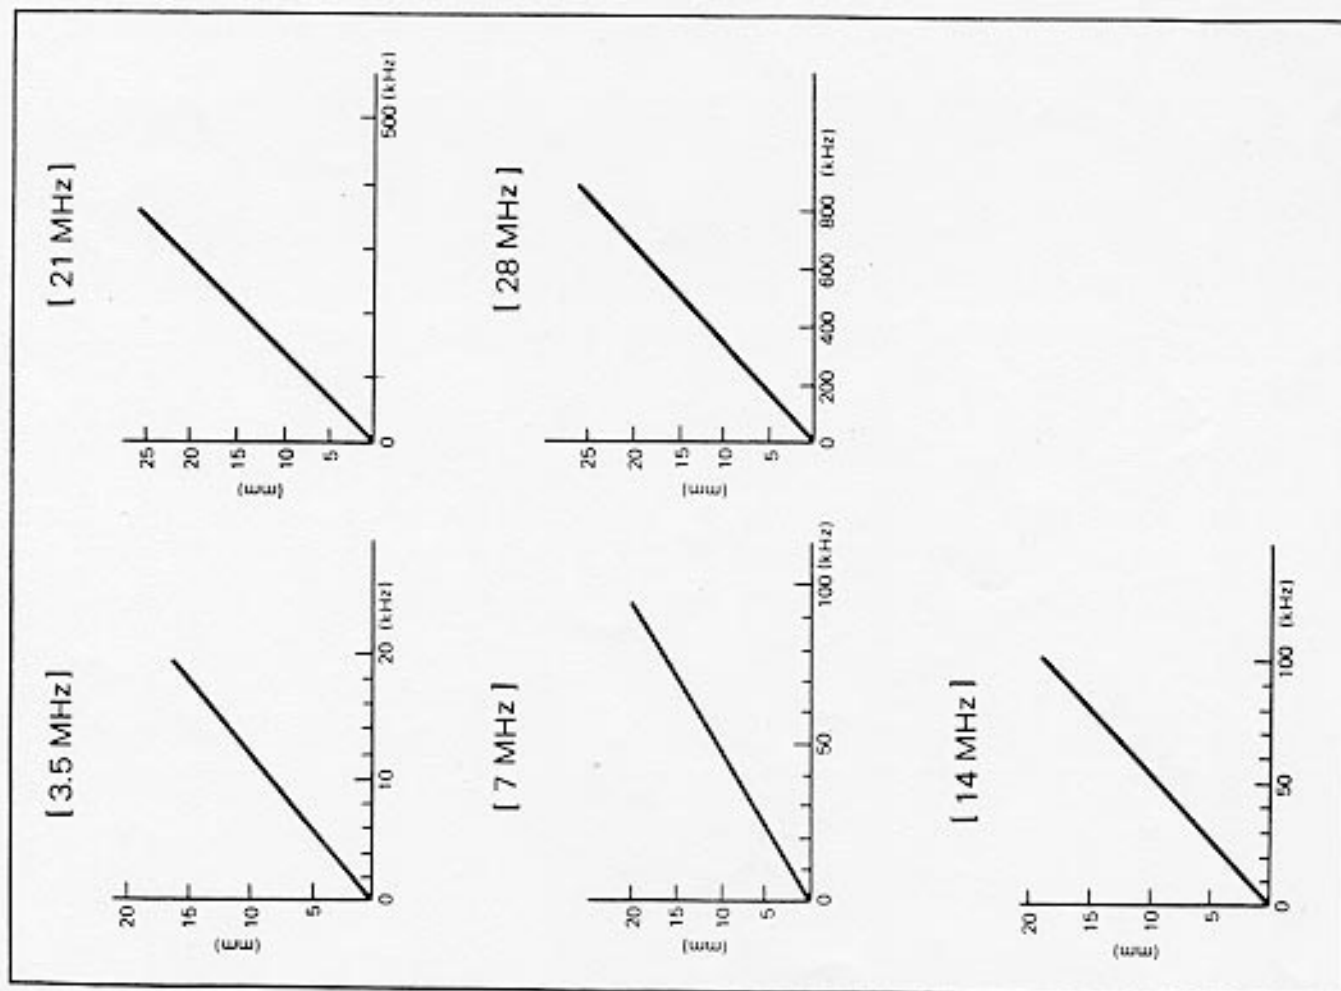

Fig. 7 Relationship between Length of Adjusting Unit and Frequency
- 6) When the " f_0 " is higher than the operating frequency, extend the adjusting unit on the tip of the antenna element. When it is lower than the operating frequency, reduce the length of the adjusting unit. Fig. 7 shows the relationship between the length of the adjusting unit and the " f_0 ". A slight adjustment provides optimum operation.
When it is lower than the operating frequency, reduce the length of the adjusting unit. The relationship between the length of the adjusting unit and "fo" is shown in Fig. 7. A slight adjustment provides optimum operation.